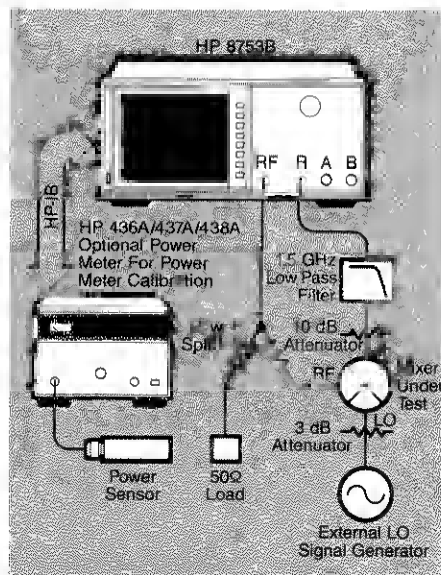

Figure 7. Block diagram for a swept IF/fixed LO conversion loss measurement.
This step measures the frequency response of the components in the IF signal path, (attenuator, filter, and cable), and stores it into memory. This memory trace will be used to remove the frequency response of these components from the conversion loss measurement to be made with the setup in figure 7.
7. Connect the hardware as shown in figure 7, terminating the open port of the power splitter with a 50 ohm load.
8. Set the external local oscillator (LO) source to the desired fixed frequency and power level.
To enhance measurement accuracy, replace the 50 ohm load at the power splitter with the power meter and power meter sensor, as shown in figure 7. Perform a one sweep power meter calibration. This will level the power splitter's output power to a user specified value over the frequency range of the measurement.